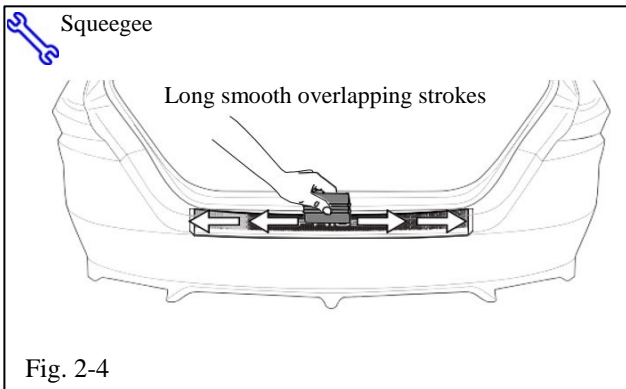

Fig. 2-4
- (d) Using long smooth overlapping strokes squeegee from the center outwards of the horizontal surface (Fig. 2-4).